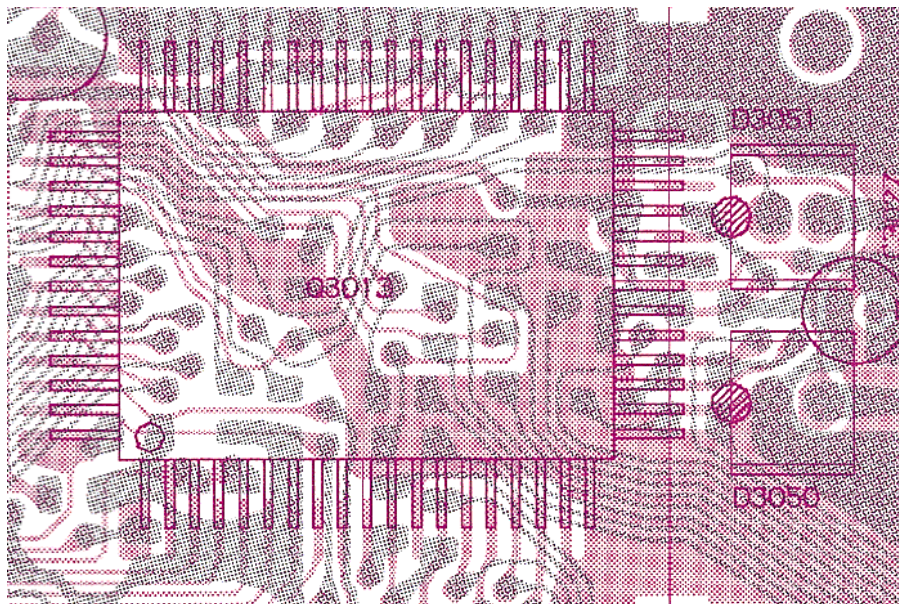
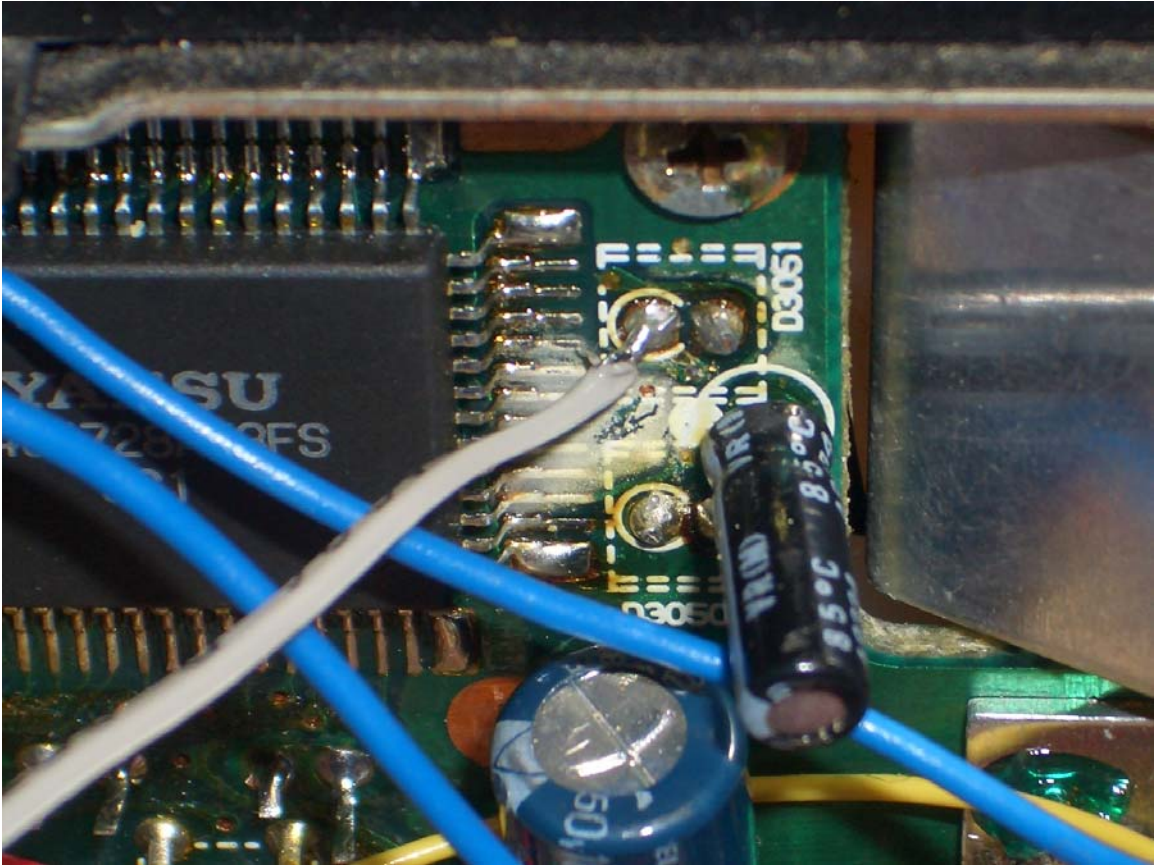

Figure 6-1.
Figure 6-2.
14. Next, attach a wire for the other side of the relay coil to the XMIT LED, D3051 as seen on the component side of the display board Figure 6-1 and the photo in Figure 6-2 below.